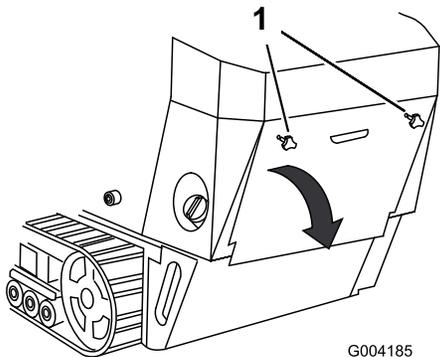

Figure 25
1. Unscrew the 2 hand knobs securing the rear-access cover to the machine (Figure 25).